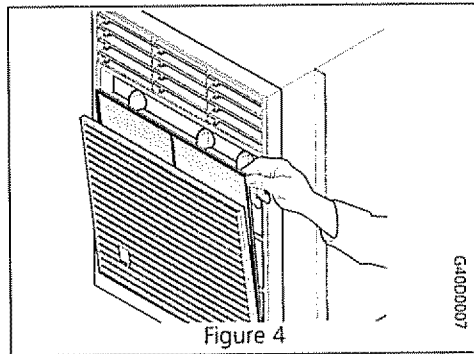

Figure 4
- On slider-casement models, press down on the top of the front panel. Gently pull the top of the panel out from the cabinet. Pull the filter straight up and out (Figure 4)